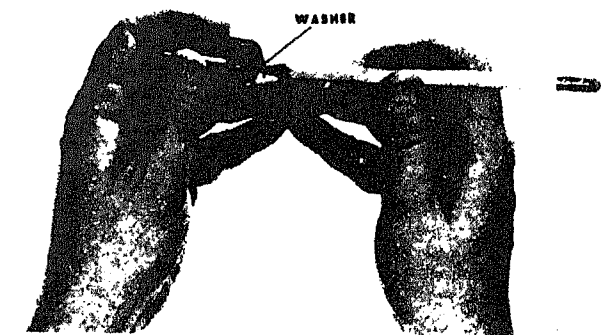

Fig. 510-3 Installing washer over plunger
1. PT (type G) Fuel Pump: Assemble screw into plunger guide, place small copper washer over screw point in plunger guide. Fig. 510-3. Place small idle spring in plunger guide and place idle plunger (button) against spring in plunger guide. Fig. 510-4.